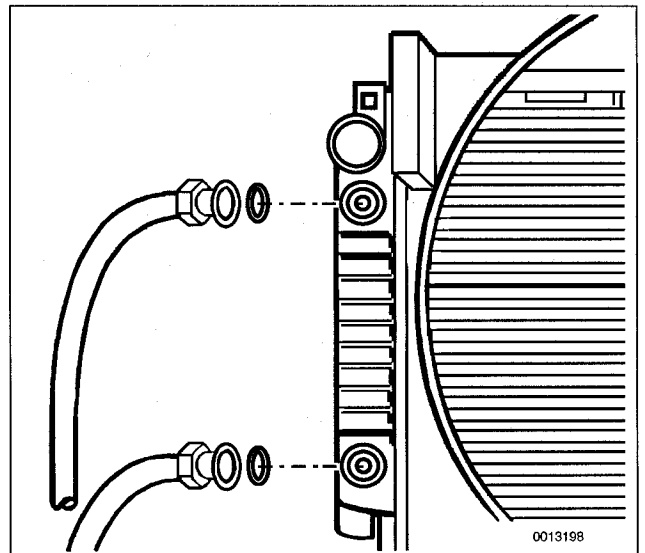

Fig. 21. Automatic transmission fluid (ATF) lines at radiator.
6. Where applicable, disconnect automatic transmission fluid (ATF) cooler lines from radiator. See Fig. 21.